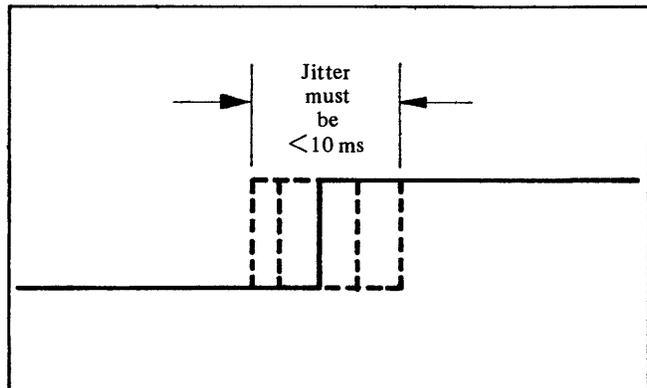

Figure 4-7. Long Servo Gate Jitter
8. Obtain the trace shown in figure 4-7. Move the positive-going edge to coincide with the centre graticule. Switch in the X10 magnifier.